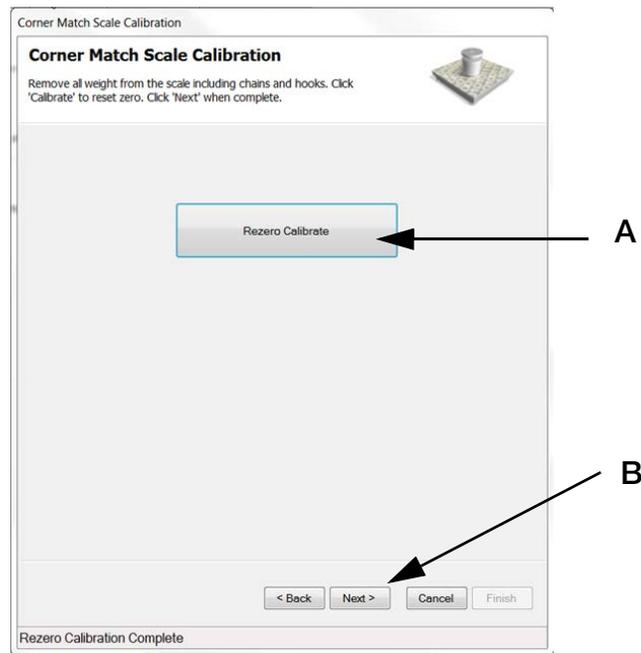

Figure 5-17. Rezero Calibrate
14. Remove the weights and pallet. Select **Rezero Calibrate** (Figure 5-17 A) and wait for the prompt **Rezero Calibration Complete** (Figure 5-17 B).